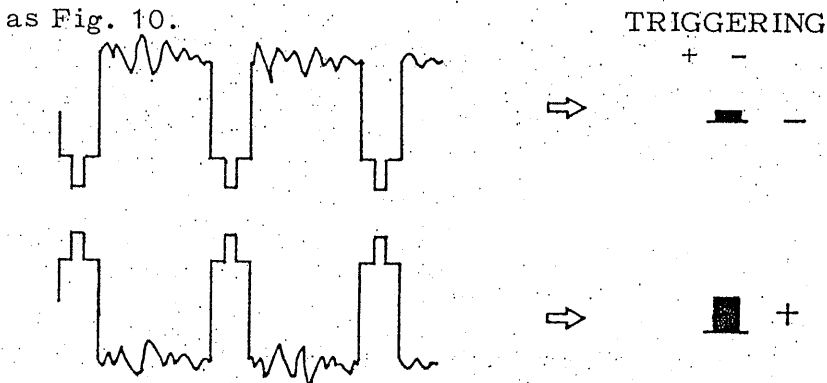

Fig. 10
(2) AUTO mode : The circuit is stably triggered with an input signal of which repetition frequency is more than 50Hz. The sweep circuit free runs automatically even when no trigger input signal is being applied. A bright trace is displayed even at fast sweep ranges and the zero level can be readily checked. For general purposes, use of the AUTO mode is recommended.
(3) TV mode : This mode is used for observation of television video signal. The only synchronizing signal in the input signal is picked up by synchronizing separator circuit. As the synchronizing signal is used as trigger input signal, the circuit is stably triggered. In $0.5\mu\text{s} \sim 50\mu\text{s}/\text{DIV}$ ranges, the triggering circuit is synchronized by the horizontal synchronizing signal (TV.H) and in $0.1\text{ms}/\text{DIV}$ or less ranges, it is synchronized by the vertical synchronizing signal (TV.V). Select the TRIGGERING +/- position corresponding to the polarity of television video signal measured as Fig. 10.